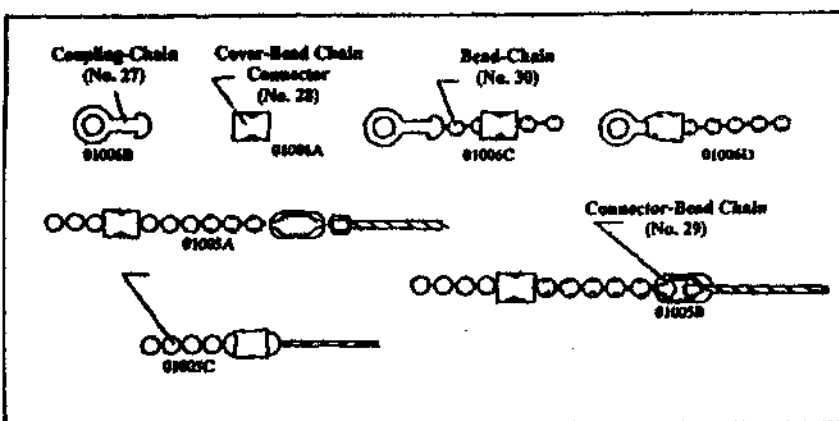

Figure 7
**CAUTION:** When using the Connector Bead Chain to connect the Bead Chain to the Cruise Control Module cable you must always use the Cover-Bead Chain Connector. The Cover-Bead Chain Connector must also be used when using the Coupling-Chain. See Figure 7. Failure to use the Cover-Bead Chain Connector could possibly cause the Bead Chain or the Cruise Control Module cable to hang in the Connector-bead Chain causing the throttle to be held in partially open position. This condition could occur when the Cruise Control is not being used.